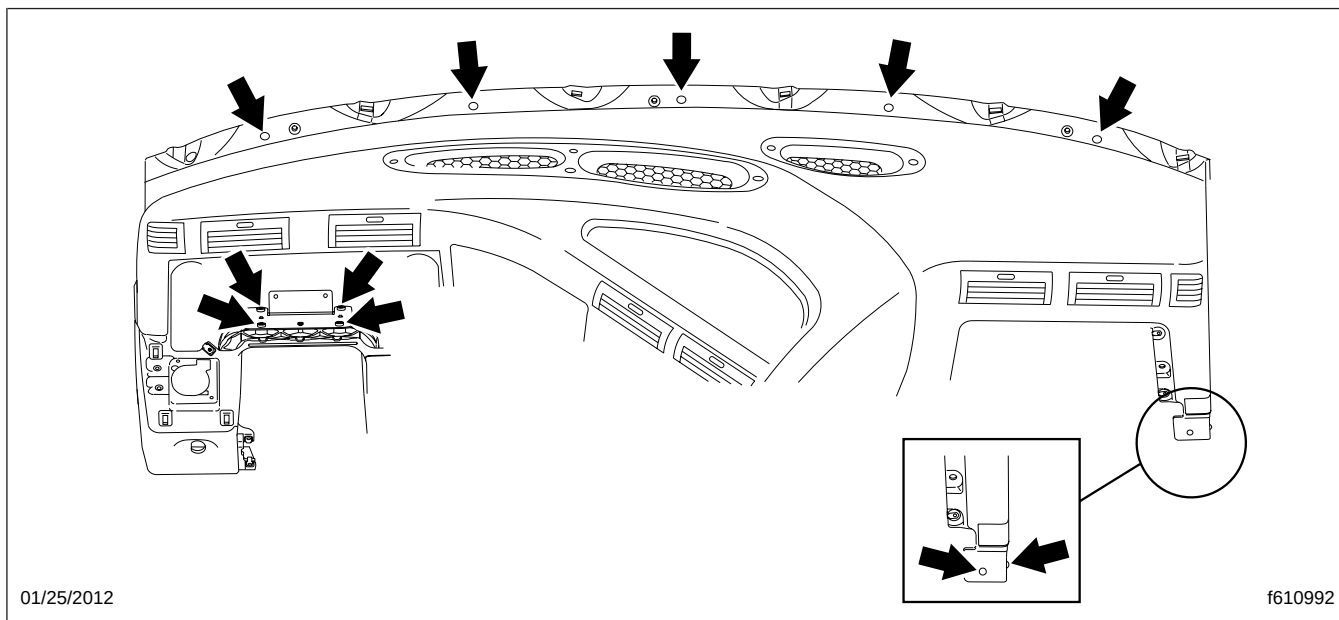

Fig. 6, Dash Fasteners
12. Raise the dash enough to provide clearance, and suspend it securely out of the way. See Fig. 6. See Section 60.06 for instructions.